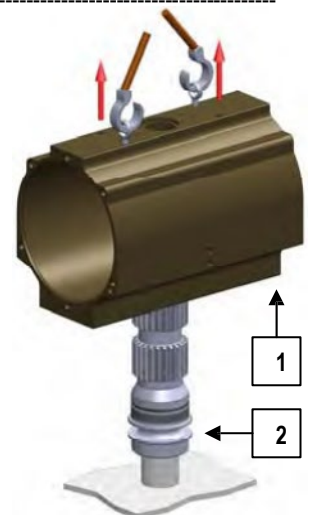

Fig. 12
12. Gradually raise the cylinder (1), make sure that the pinion (2) gets extracted with special caution for all seatings (if necessary, use a rubber hammer) (see Fig. 12).